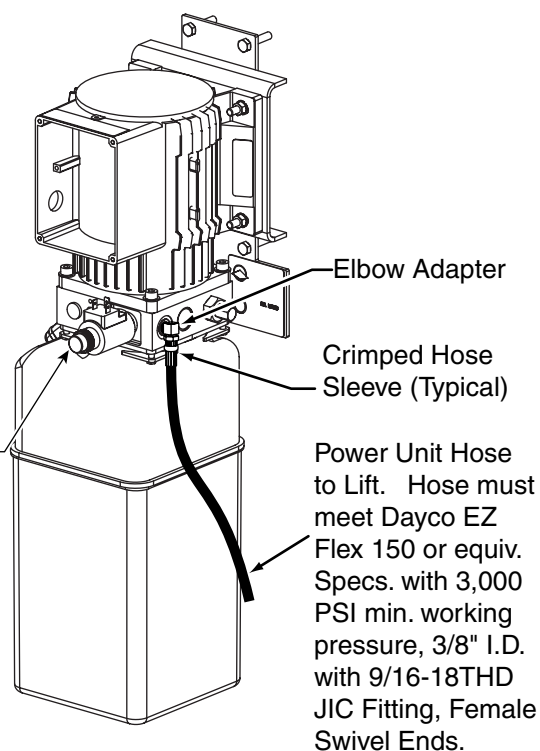

Fig. 9
- C.** Install hose onto elbow adapter on power unit, Fig. 9.